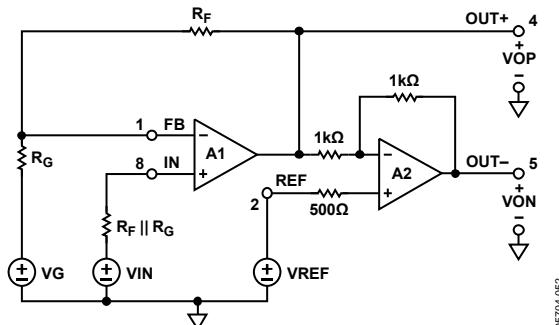

Figure 48. Basic Connections (Power Supplies Not Shown)
The **ADA4941-1** is a low power, single-ended input, differential output amplifier optimized for driving high resolution ADCs. Figure 48 illustrates how the **ADA4941-1** is typically connected. The amplifier is composed of an uncommitted amplifier, A1, driving a precision inverter, A2. The negative input of A1 is brought out to Pin 1 (FB), allowing for user-programmable gain. The inverting op amp, A2, provides accurate inversion of the output of A1, VOP, producing the output signal VON.
In Figure 48, R_G and R_F form the external gain-setting network. VG and $VREF$ are externally applied voltages. V_o, cm is defined as the output common-mode voltage and V_o, dm is defined as the differential-mode output voltage. The following equations can be derived from Figure 48: